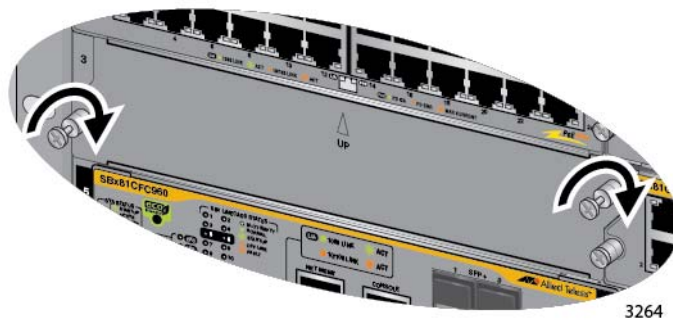

Figure 74. Tightening the Thumbscrews on a Blank Slot Cover
2. Finger tighten the two thumbscrews to attach the blank panel to the chassis, as shown in Figure 74.